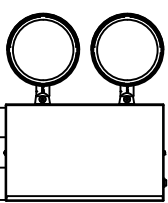

Fig 4
4. Make proper electricals connection, black lead is for 120V, red lead is for 277V, white lead is NEUTRAL, green lead is for ground, cap unused lead (see Fig 4).